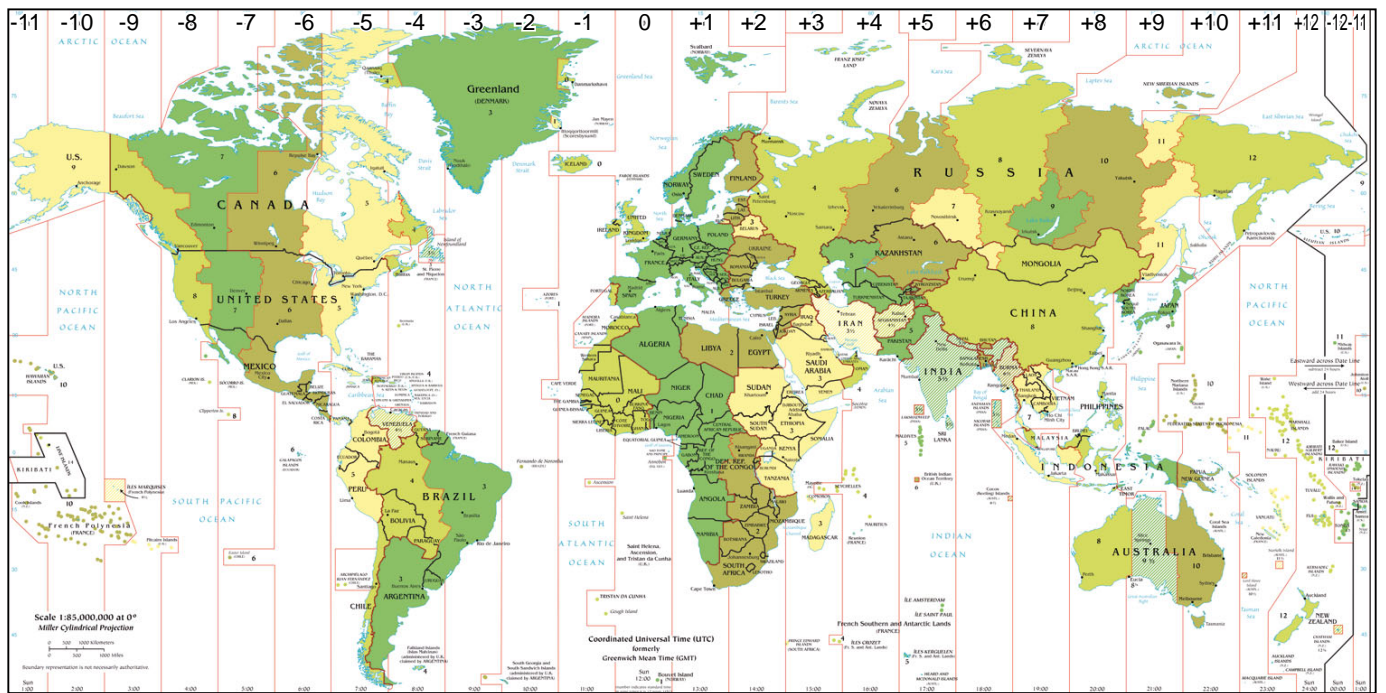

Fig. 21 Time zones
- ▶ Time zone GMT (e.g. +1 in Germany, see Fig. 21)